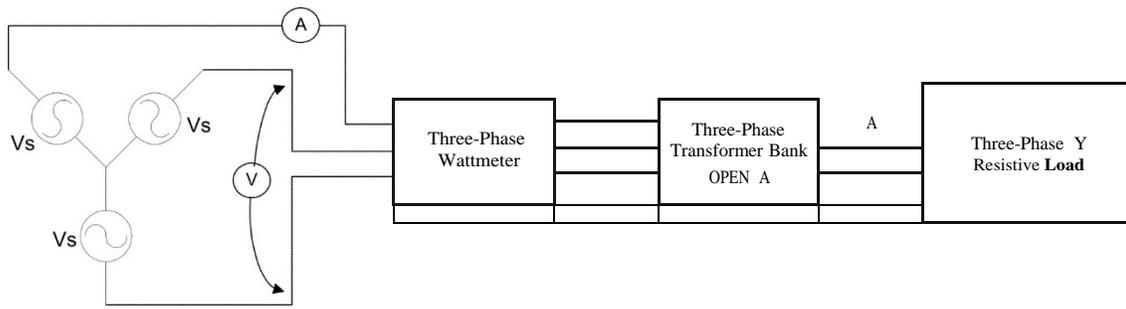

FIGURE 5.13
- h) Remove one of the transformers from the bank (Open delta connection) and connect the other two transformers as in Figure 5.13. Repeat all steps above.